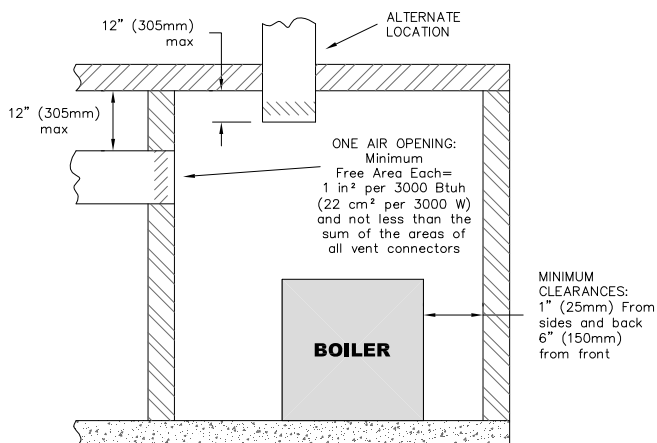

Figure 1.8: Air Openings – All Air from Outdoors through One Opening
- b. **One Permanent Opening Method:** Provide one permanent opening beginning within 12 inches (305 mm) of the top of the space. The opening shall communicate directly with the outdoors, communicate through a vertical or horizontal duct, or communicate with a space that freely communicates with the outdoors. The opening shall have a minimum free area of 1 in² per 3000 Btu/hr of total rated input for all appliances in the space and not less than the sum of the cross-sectional areas of all vent connectors in the space. The gas-fired equipment shall have clearances of at least 1 inch (25 mm) from the sides and back and 6 inches (150 mm) from the front of the appliance. See Figure 1.8 for this arrangement.